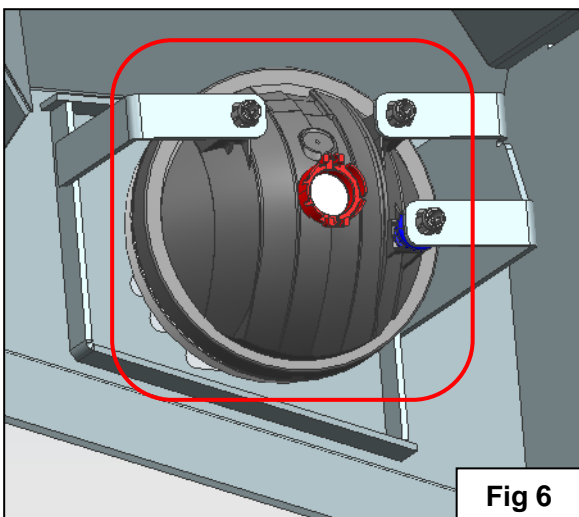

**Fig 5**
**NOTE: SUPPORT BUMPER BEFORE REMOVING BOLT STRIPS (Fig 5)!**